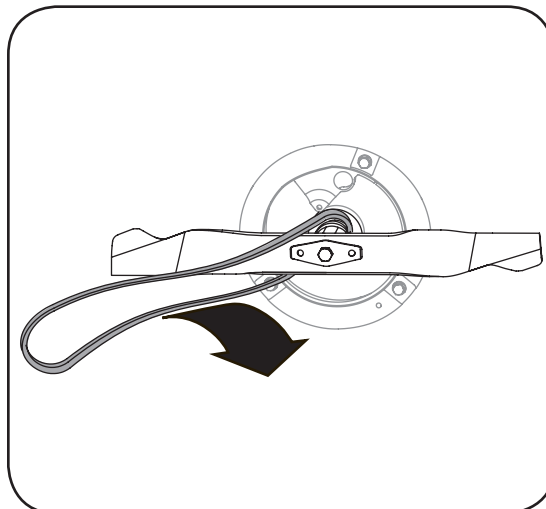

Figure 5-4
3. Push transmission up a little and slide belt off the transmission pulley. Lift mower to access belt from underside of mower. Slide belt off of engine pulley and around the blade. See Figure 5-4.